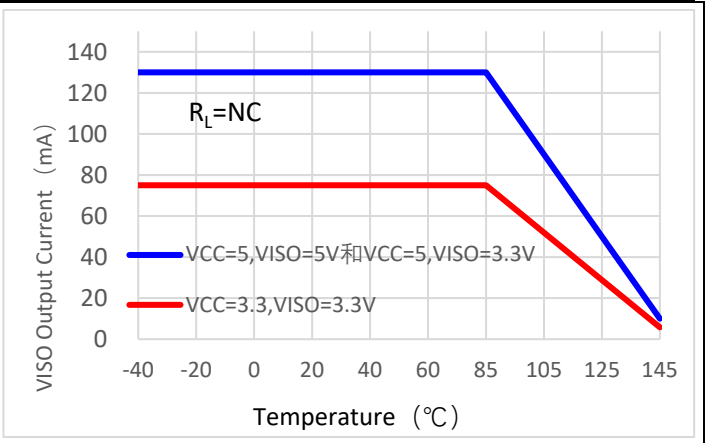
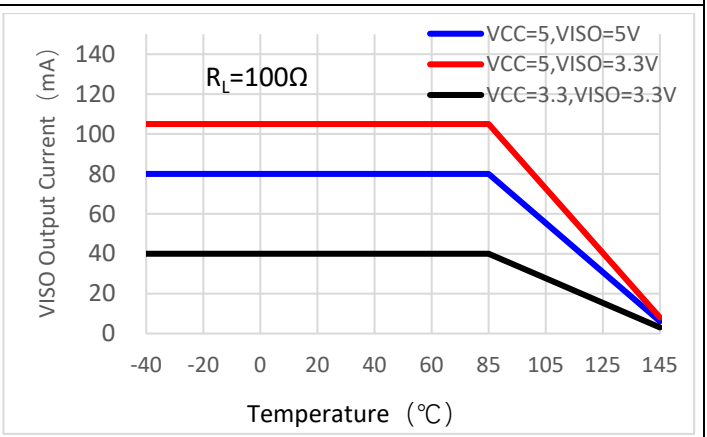

Figure 7-14.
Figure 7-16.
1. DE = V_{CC} , $\overline{RE} = 0\text{V}$, DI = 0V or V_{CC} ; The available output current from V_{ISO} will be reduced when $T_A > 85^\circ\text{C}$, see Figure 7-14, Figure 7-16, Figure 7-18, the maximum output current of V_{ISO} vs. temperature.
The maximum output current from V_{ISO} is shown as Table 9-6. Note that the I_{ISO} value in Table 9-6 is the maximum output current at +25°C with data rate x load capacitance < 0.5Mbps x 2nF. As the increase of temperature, especially when the temperature exceeds +85°C, the maximum load current will be decreased, see more details in Figure 7-14, Figure 7-16, and Figure 7-18.